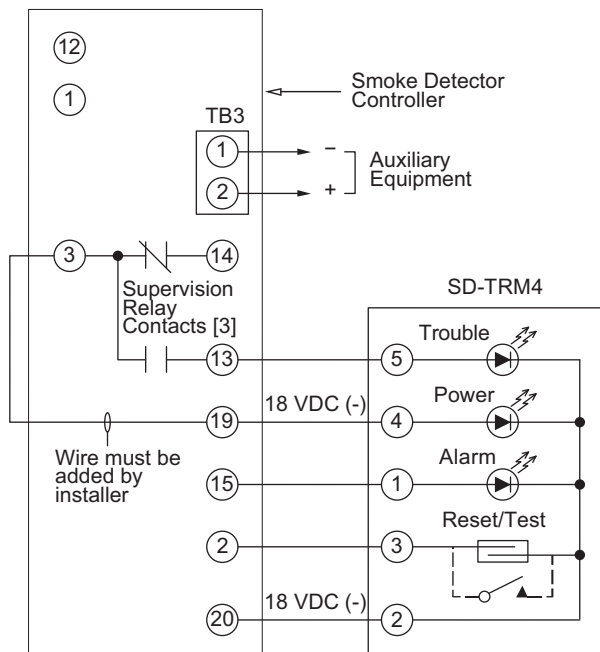

Fig. 44 — Remote Test/Reset Station Connections
The test/reset station dirty sensor test checks the test/reset station's ability to initiate a sensor dirty test and indicate the results. It must be wired to the controller as shown in Fig. 44 and configured to operate the controller's supervision relay. For more information, see "Dirty Sensor Test" on page 36.
1. Verify that the remote test/station is wired as shown in Fig. 44. Repair or replace loose or missing wiring.